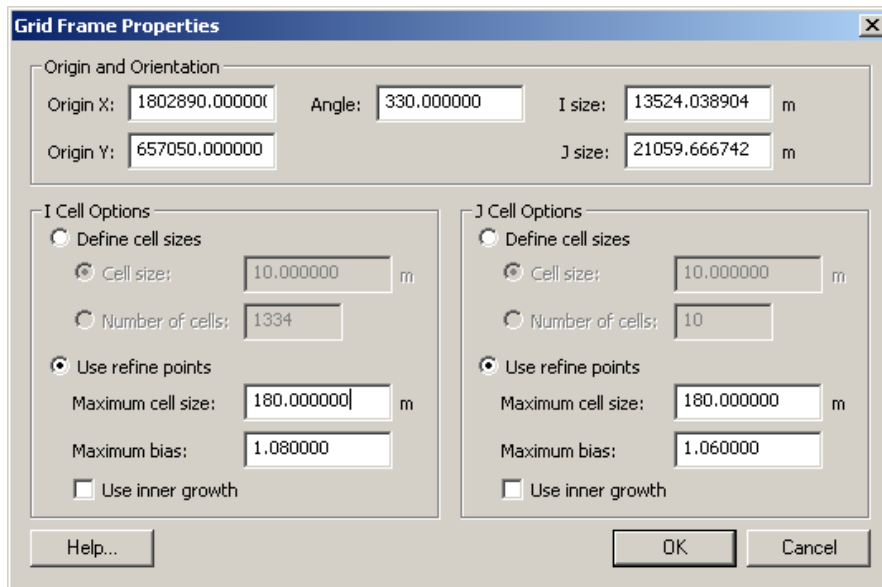

Figure 4. Grid Frame Properties
4. Rt-click the highlighted center button and click *Properties* to further modify the dimensions of the grid boundary (Figure 4),